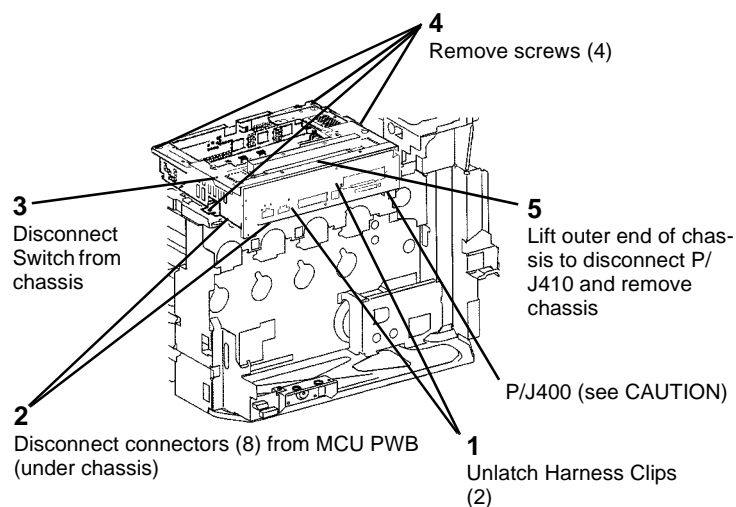

Figure 1 Removing ESS Chassis
7. Remove the ESS Chassis Assembly (Figure 1).